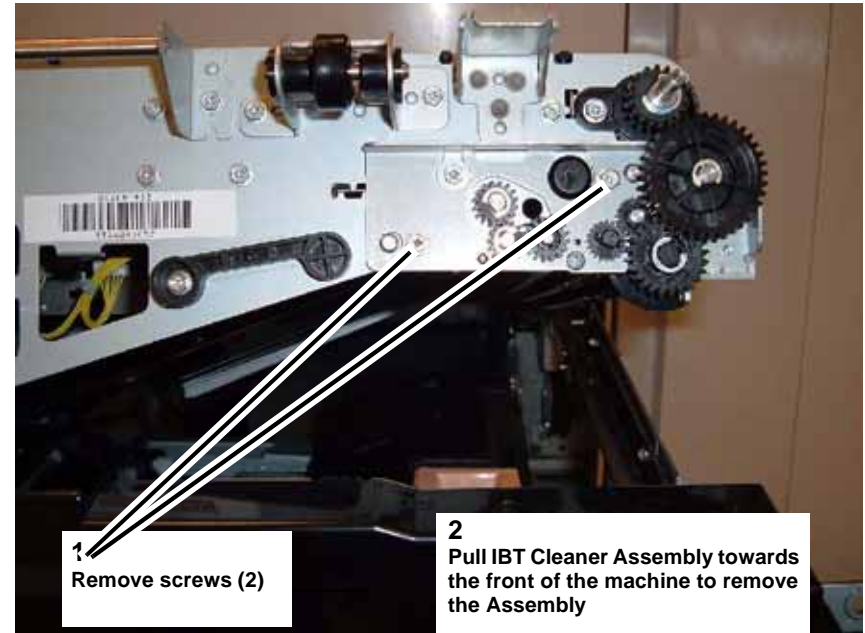

Figure 2 Removing the IBT Cleaner Assembly
3. Remove the IBT Cleaner Assembly (Figure 2).